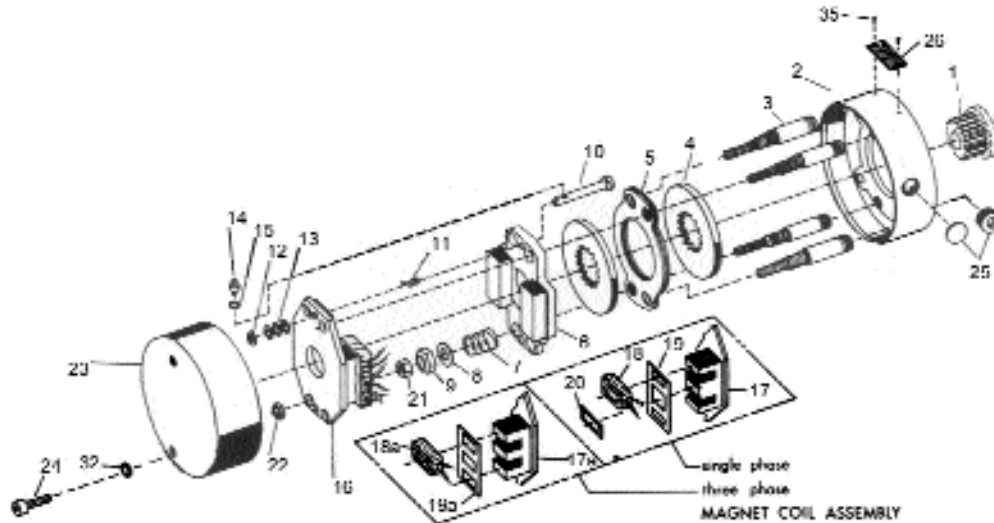

Figure 3. Exploded View of Brake
(See Figures 3, & 5, Tables 2 & 3)
1. Remove hub (1) from brake and position on motor shaft with key according to dimension "N". Stamped part number on hub should face away from motor. Tighten hub set screws with 12 lb. ft. torque.
2. Remove cover screws (24) and cover (23).
4. Bolt brake to motor "C" face with four socket head cap screws. See Figure 3 to determine bolt length.
(See Figures 3 & 5)
(See Figures 3 & 5, Table 2)
(See Figure 3)
When assembling a standard manual release mechanism (Figure 3), add only enough shim washers (13) to obtain proper release action. Too many shim washers will prevent automatic reset when electrical power is applied. Too few washers will prevent the motor shaft from turning freely. Replace stop screws (14). Wind each torsion spring (11) approximately 1/4 turn and hook spring loop over pin.
(See Figures 3 & 4)